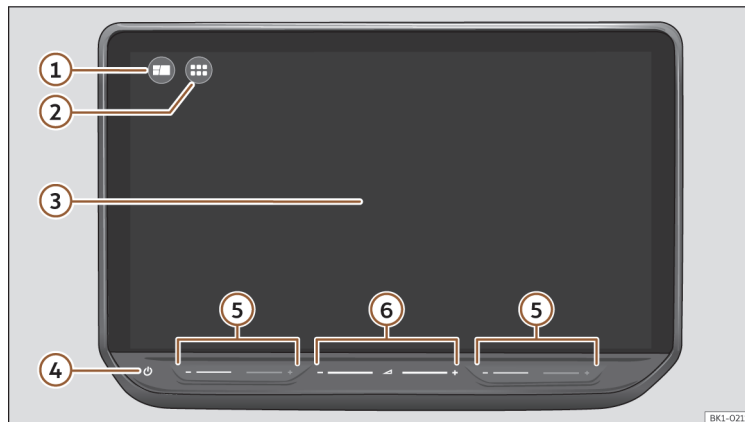

Fig. 152 Overview: control unit
Customise the top menu or the HOME >>> **Fig. 152** ① view to quickly access your favourite or most frequently used functions.